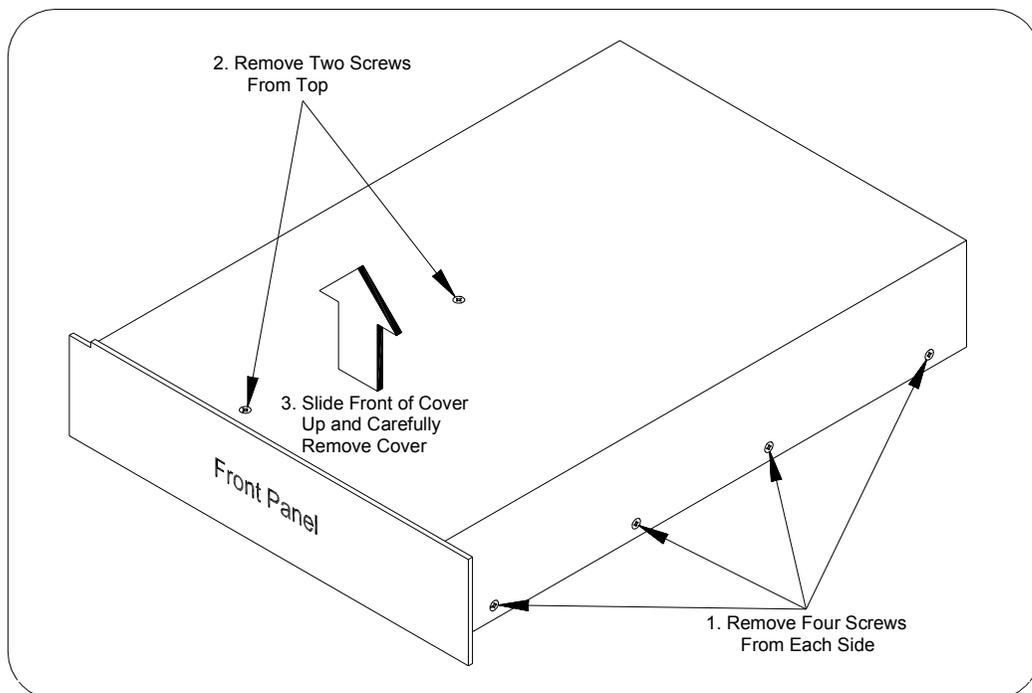

Figure 6-2. Removing the E985xA Cover
To add additional RAM, change switch/jumper settings, replace the hard drive, or install I/O expansion card panels, you will first need to remove the E985xA cover as shown in Figure 6-2.
- 1 Turn mainframe power OFF, remove the E985xA and remove the E985xA cover (see Figure 6-2).
- 1 Turn mainframe power OFF and remove the E985xA from the mainframe. Then, remove the E985xA cover (see Figure 6-2).